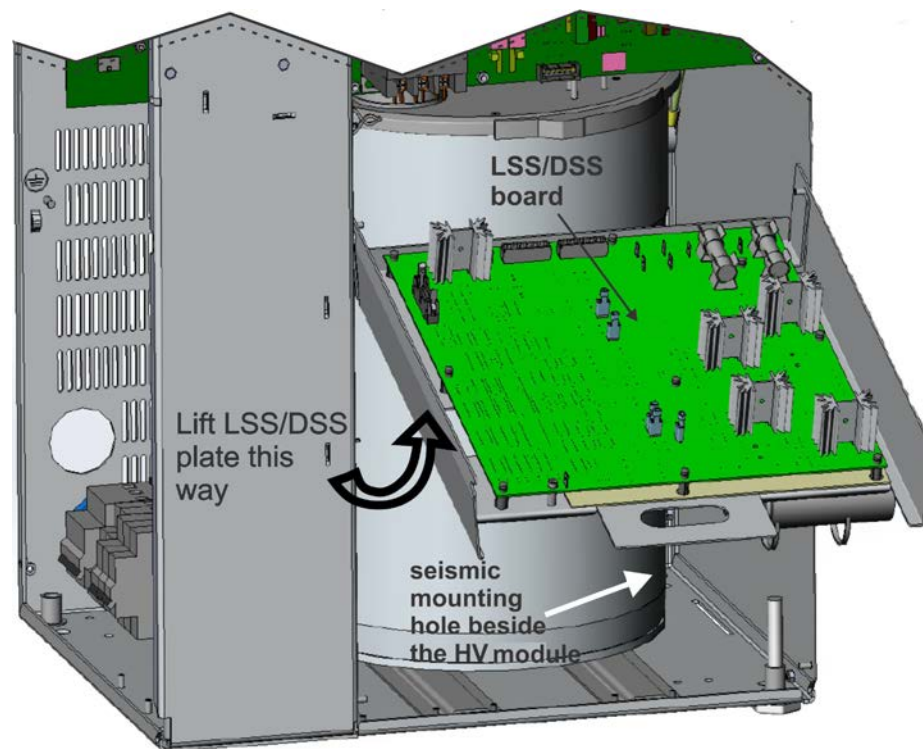

FIGURE 1C-4: LIFT THE LSS2/DSS2 BOARD MOUNTING PLATE UPWARDS TO ACCESS THE SEISMIC MOUNTING HOLE
- The mounting plate needs to be held securely in the position shown in Figure 1C-4 while the seismic mounting hardware is secured.